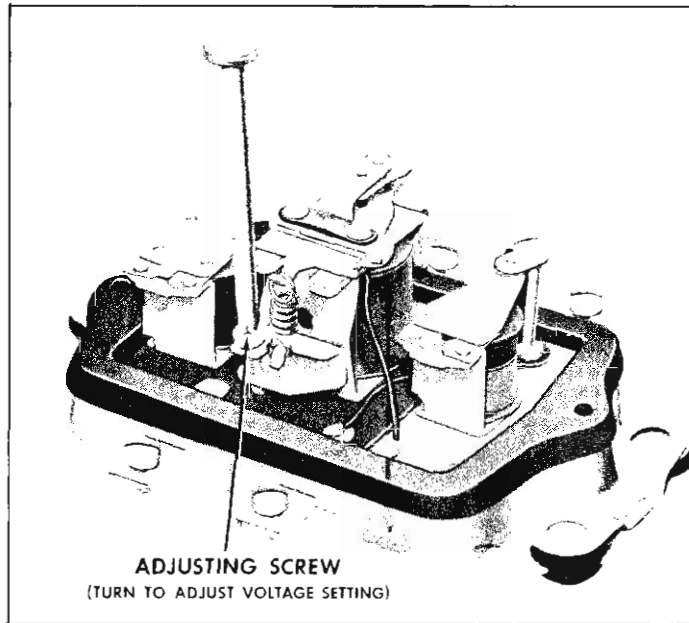

Fig. 8—Adjusting Voltage Setting
8. To adjust the voltage setting while operating on the upper set of contacts, turn the adjusting screw as shown in Figure 8.